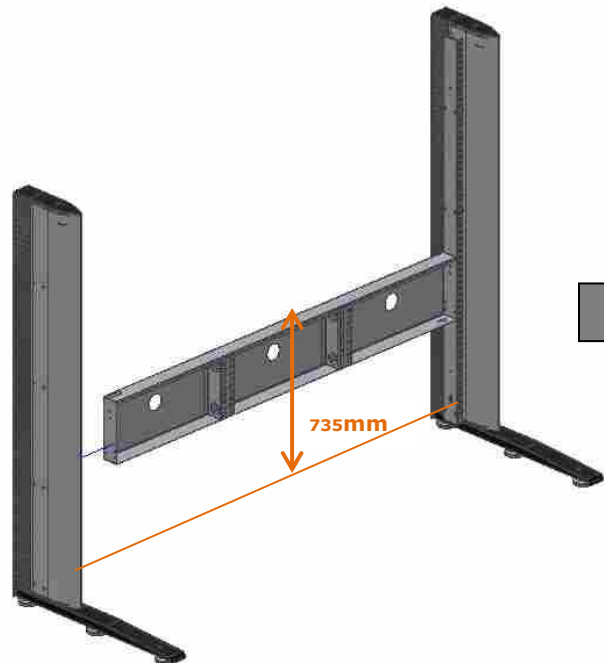

Fig 7
STEP 4 – Position the other **side + bar** and screw it to the **stabilizer** as explained in the three previous steps (Fig. 7). Check that there are 735mm from the top of the **stabilizer** to the floor.